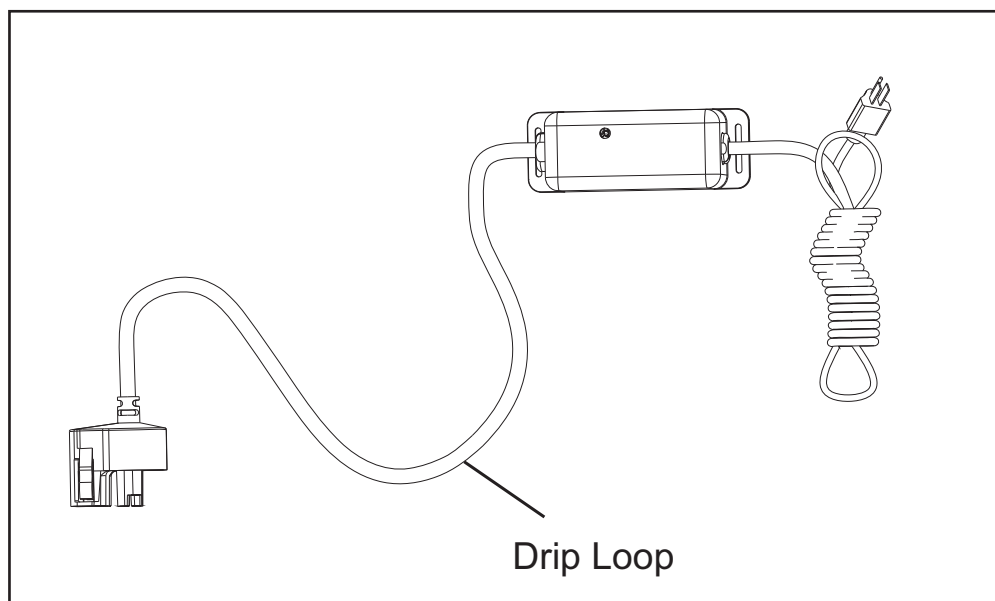

Figure 3 Drip Loop
- The controller should be mounted either above or beside the UV chamber. Always mount controller horizontally to prevent moisture from running down cordage and causing a potential fire hazard. Drip loops in all cordage connected to controller is highly recommended. Refer to Figure 3.
4. Mount the controller horizontally to the wall, near the UV chamber. Ideally place the controller above the chamber and away from any water connection point, to prevent any water from potentially leaking onto the controller by means of a leak at a connection point or a “sweating” system. Make sure you allow for a “drip-loop” as shown in Figure 3 on the UV lamp, UV sensor, and power cord, again, to prevent any water from potentially entering the controller.